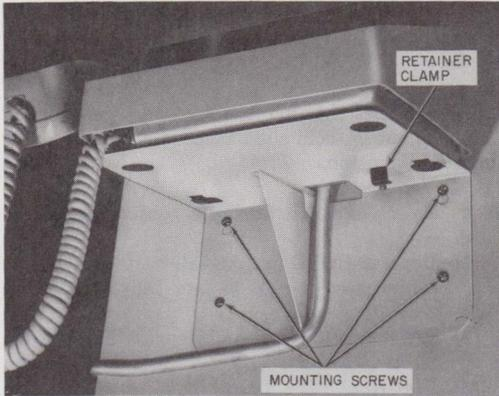

Fig. 21—Shelf for Wall Mounting COM KEY Telephone Set (D-180656 Kit of Parts)
3.28 Where it is desirable to wall-mount an 833 or 2833 desk-type telephone set, install a D-180656 kit of parts. The kit of parts (Fig. 21) consists of a mounting shelf and a telephone set retaining clamp. Install the mounting shelf using appropriate fasteners for the surface on which it is to be mounted. Insert the telephone set mounting cord down through the opening at the rear of the shelf. Insert the retaining clamp (screw down) through the slot of the shelf, up into the base of the telephone set. Check that the pads on the telephone set base fit in the slots in the shelf and tighten the retaining clamp until the telephone set is held firmly in place.